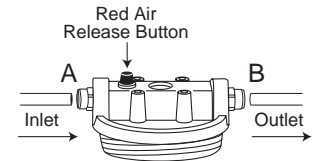

Figure 6
7. Insert water supply line to port marked "IN" (see Figure 6, A) and insert faucet line to port marked "OUT" (see Figure 6, B). Referring to section "Using Push-in Fittings," insert plastic tubing into fittings, making sure end of tubing is firmly seated to backstop.